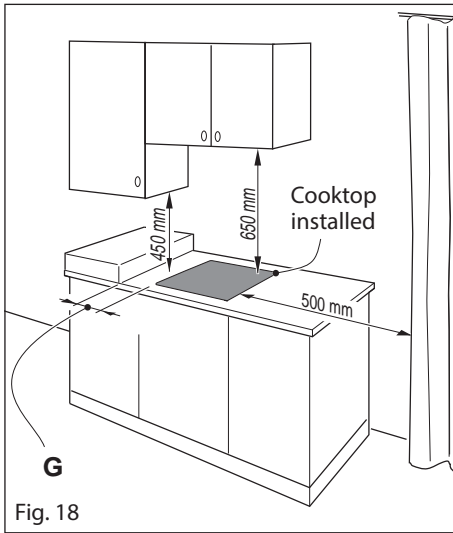

Fig. 18
- There must be a distance of at least 650 mm between the hob and any wall cupboard or extractor hood positioned immediately above (see fig. 18).